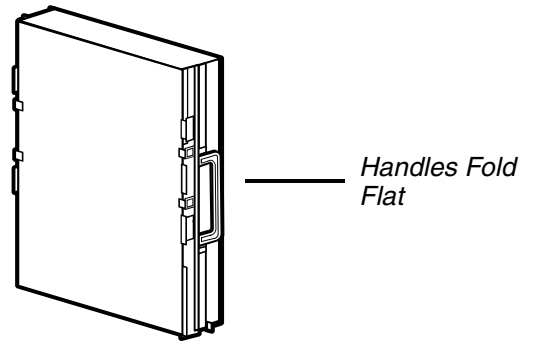

Figure 36 Collection Cell, Handle Folded
- Reinstall the COLLECTION CELLS into the air cleaner. Ensure the handles on both of the COLLECTION CELLS are folded flat as shown in Figure 36.